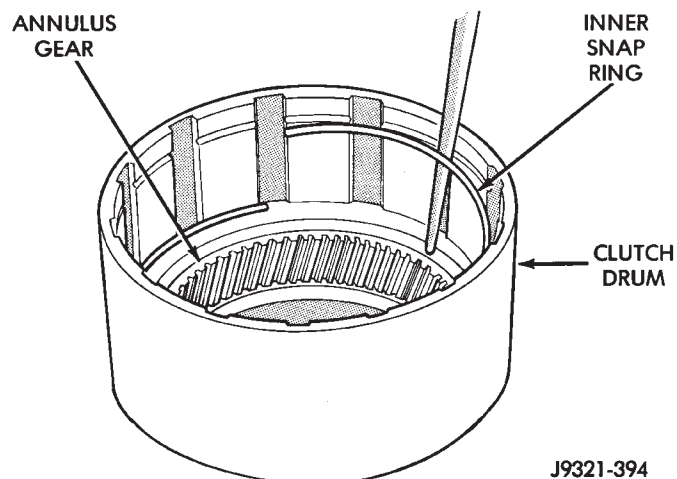

Fig. 279 Clutch Drum Inner Retaining Ring Installation
(6) Slide clutch drum forward and install inner retaining ring (Fig. 279).